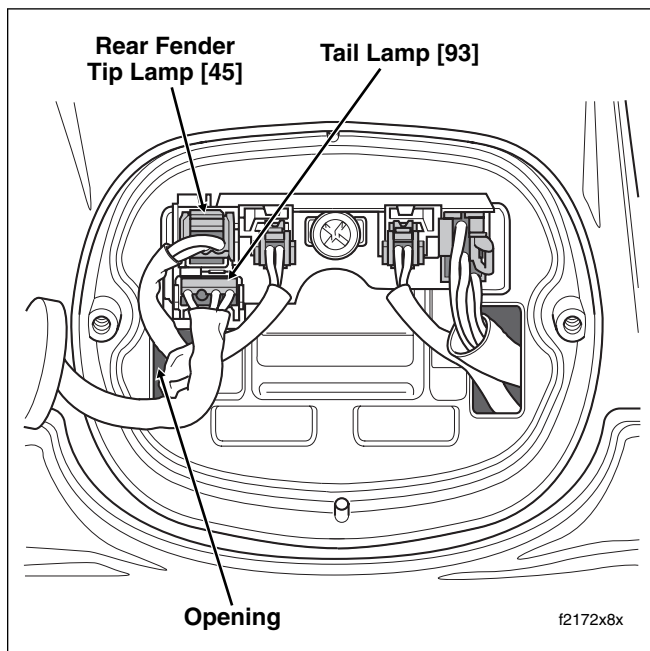

Figure 8-52. Depress Button to Release Socket From Pin Housing
2. Disconnect tail lamp connector [93], 4-place Multilock. Set tail lamp assembly aside. See Figure 8-52.
9. To install tail lamp assembly, orient 4-place Multilock socket so that the release button is at the bottom and insert into pin housing until it “clicks.” To avoid stressing wires, verify that tail lamp conduit is positioned on the outboard side of the rear fender tip lamp and left turn signal lamp conduit as shown in Figure 8-52.